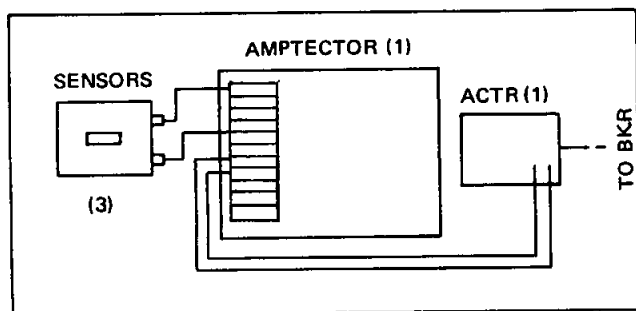

Figure 1
2. Schematically this may be represented as shown in Figure 1. This makes up a very flexible system covering a wide range of tripping characteristics. Not only is the Amptector adjustable but the sensors are available over a range of ratings. All necessary tripping energy is derived from the load current flowing through the sensors--no separate power supply is required.